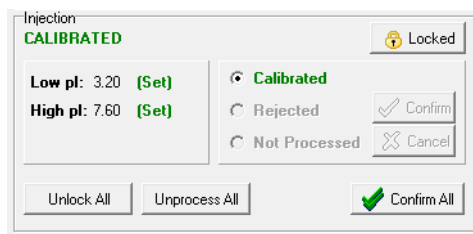

Figure 7-15: Unlock All and Unprocess All buttons.
- If you need to recalibrate, the data file will need to be unlocked. Data files can be either be unlocked one at a time by clicking the **Locked** button or you can unlock an entire batch by clicking **Unlock All** (Figure 7-15).
- If you need to reprocess the batch, click **Unprocess All** (Figure 7-15). This will unlock all data files in the batch and reset the file status for each to Not Processed.